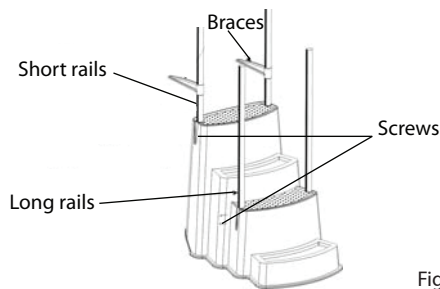
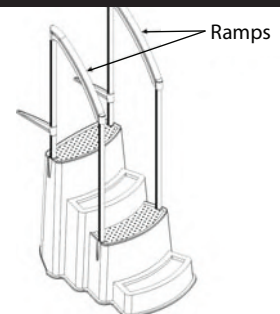

Fig. 1
Fig. 2
1. Place the rails on the sides of the step (short rails on top) and align with the predrilled holes. Attach using the 2 1/2" (8) bolts, washers and nuts. Do not tighten the bolts at this time. Slide the braces over the short rails (fig. 1).
2. Insert the diagonal rails onto the long and short rails. From the outside of the step, attach using the 10 x 3/4" (4) screws (fig. 2). Tighten the bolts on the step (as shown in figure 1).